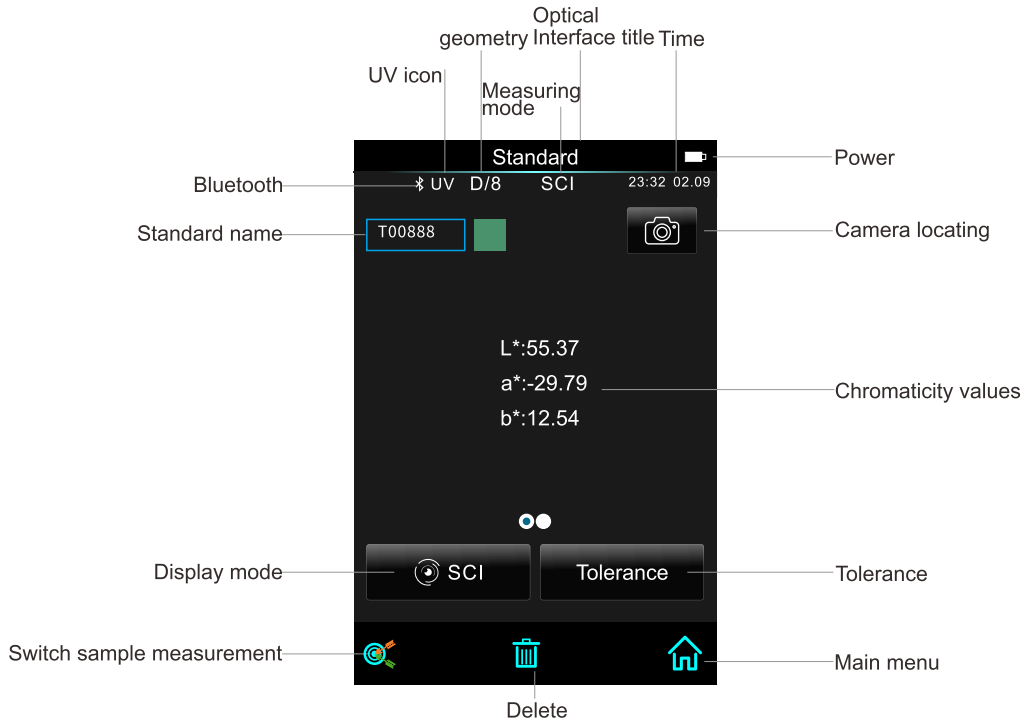
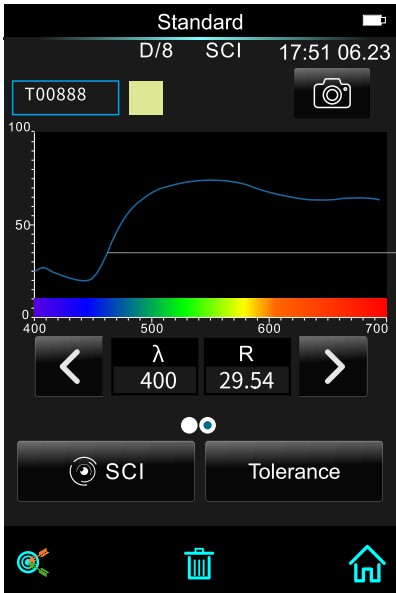
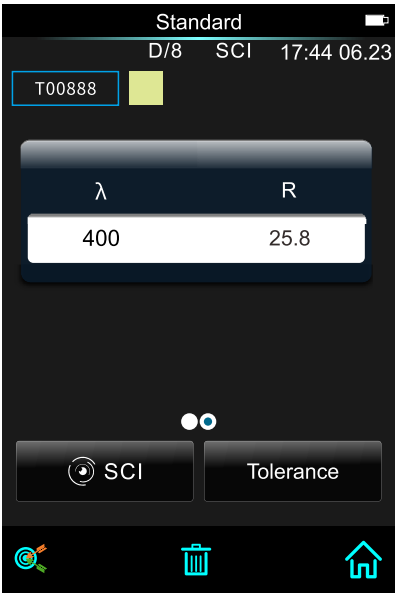

Figure 11 Standard Measurement
Figure 12 Standard reflectivity 1
Figure 13 Standard reflectivity 2
In "Standard Measurement" interface, Align the measuring aperture to sample tightly and press the "Measuring Button". Then there will be a "Beep" voice, and the LED indication light will flash then off. After that, sounds the "Beep" voice again that means measurement finished. The interface of the tested sample is shown in Figure 11, Figure 12 and Figure 13.
- 10)Wavelength switch button: As shown in Figure 12, click "<" or ">", the wavelength and reflectivity of the current sample will be switch at the interval of 10nm. Partial instrument models only show partial reflectivity, as shown in figure 13.